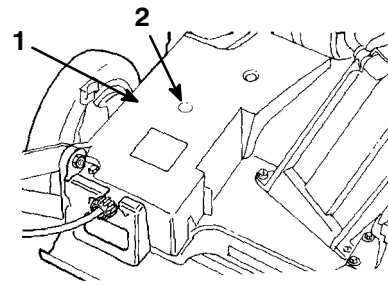

Figure 32
2. Install a grease gun onto the fitting through the belt cover opening (Fig. 32).